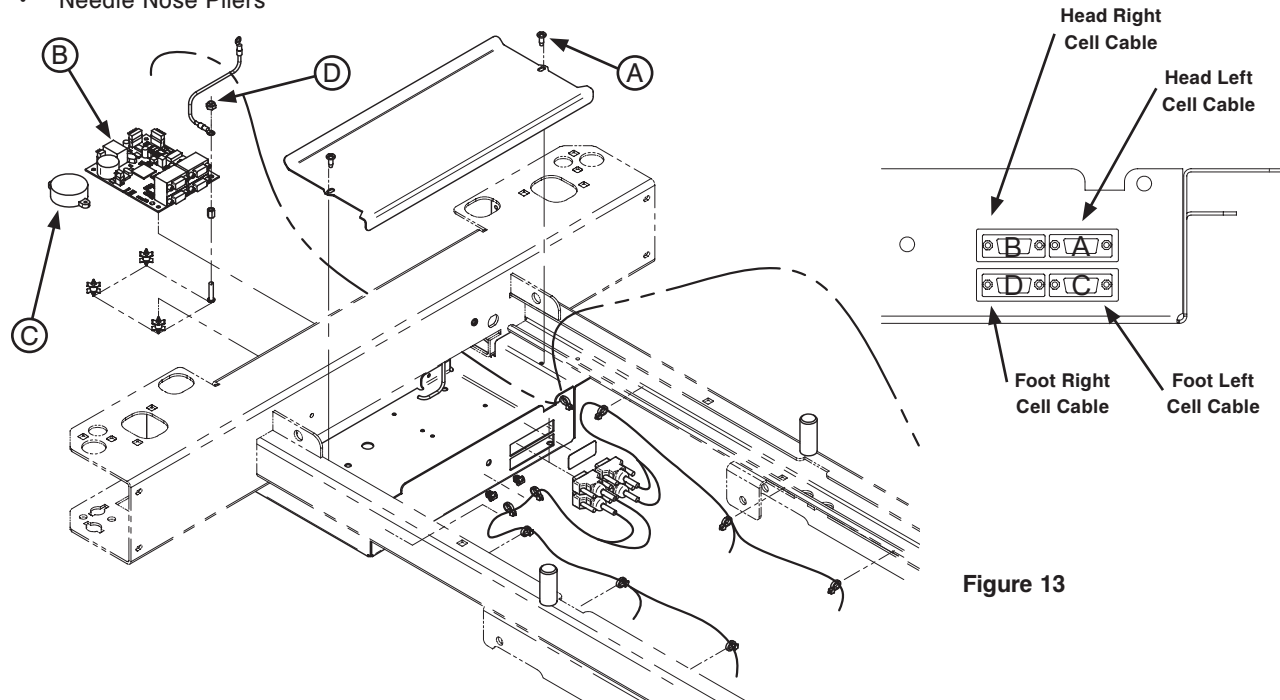

Figure 13
Refer to Figure 13, page 1-53, for this procedure.
Ensure the load cell cables on the scale/bed exit board are properly reconnected. Refer to Figure 13 when reconnecting the load cell cables.
3. Using a #2 Phillips screwdriver, remove the six screws holding the cover (A) to the litter. Keep the cable clips.
4. Using a #2 Phillips screwdriver, remove the two screws (A, Figure 13, page 1-53) holding the cover plate to the litter.
6. Using a 1/2" combination wrench, remove the nut (B), washer (C) and bolt (D) holding the transformer to the litter. Disconnect the transformer cable and remove it.